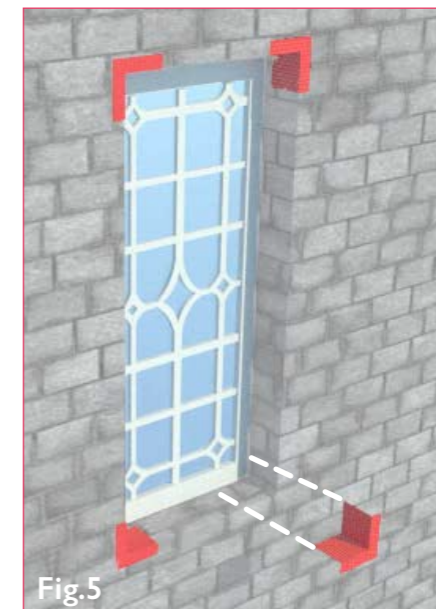

Fig.5
1. Before installing Wraptherm, seal all window and door penetrations with Wraptite Corners, Wraptite Tape and Wraptite Liquid Flashing according to published guidelines (Fig.5); refer to: *Wraptite®: Membrane & Accessories Installation Guide*.